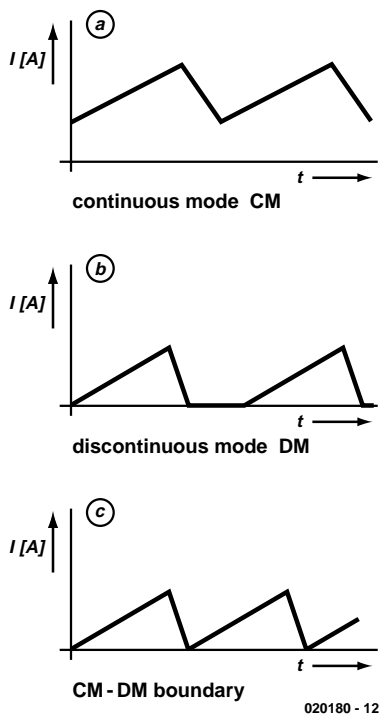

Figure 2. Theoretical current waveforms.
principle there are three patterns of current flow, as illustrated in **Figure 2**. If the current flow in the coil has not reached zero when switch  $S$  is closed, there will always be a current flowing in the coil: this is known as 'continuous mode' (CM). If, as
shown in **Figure 2(b)**, the current is zero for part of the cycle, the circuit is operating in 'discontinuous mode' (DM). If the switch is turned on when the coil current reaches exactly zero, we speak of CM/DM limit operation.